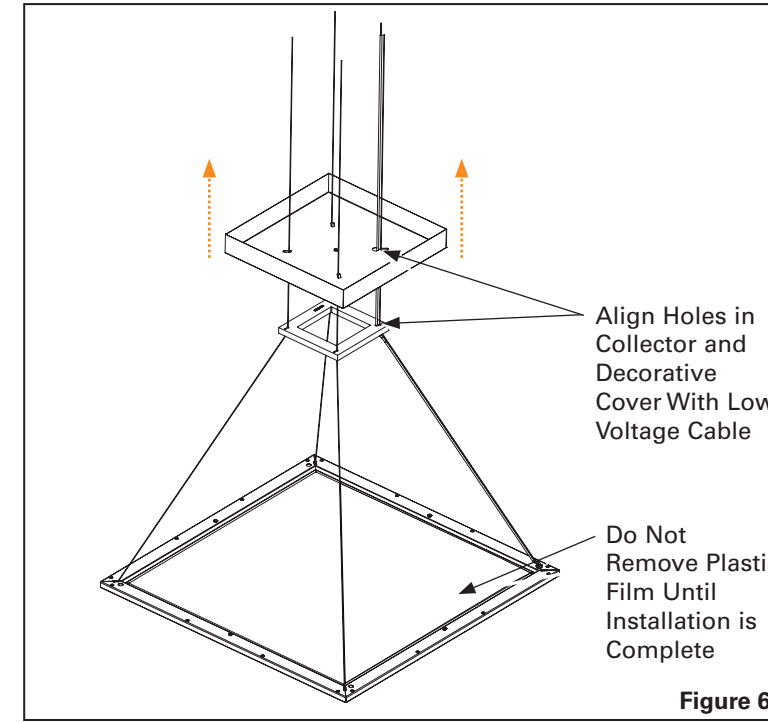

Figure 6.
Step 6a. At the Light Guide Panel, take the four Air Craft Cables and Low Voltage Cable, feed them all the way through the Collector and Decorative Cover. Make sure to orientate the Collector and Decorative Cover so the Low Voltage Cable feeds through the correct features in the parts. The Low Voltage Cable will also need to orientate with the hole in the Driver Compartment Cover in the ceiling. Ref. Figure 6.
Step 6b. Take foam insert from box and rest on top of Light Guide Panel. Then, rest the Collector and Decorative Cover on the Light Guide Assembly. (Do not remove protective film and foam until installation is complete). Ensure engraved text on Collector faces Driver Box. Ref. Figure 6.